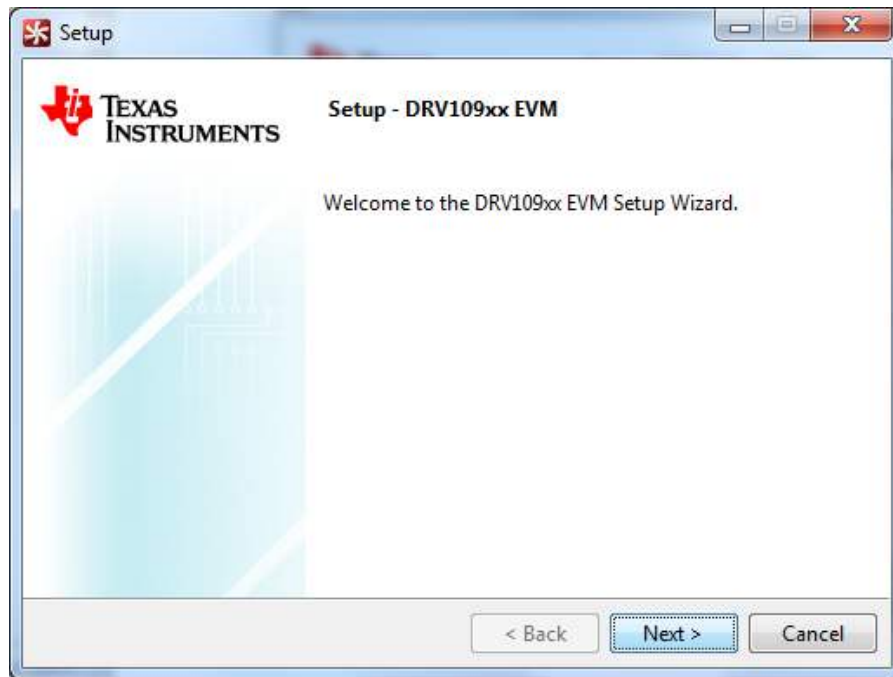

Figure 17. GUI Installation Initialization
2. The *Setup* window is displayed as shown in Figure 17. Click the *Next >* button to begin the setup